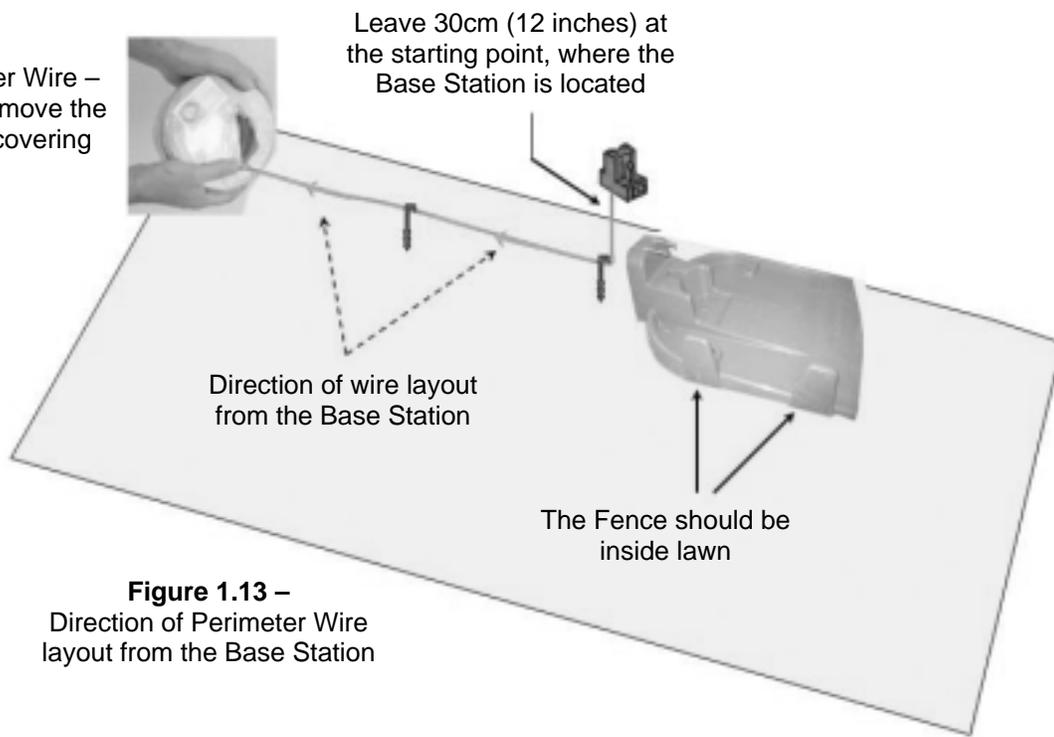

Figure 1.13 –
- Place the Base Station concomitantly to the lawn edge on the lawn where the fence faces towards the inner side of the lawn (Figure 1.13).
- Peg the beginning of the wire to the ground where the Base Station will be located; be sure to leave 30cm (12 inches) to close the loop at the end of the setup (Figure 1.13);
- Start laying the wire to the counterclockwise direction when standing inside the lawn, as show in Figure 1.13.
- Begin pulling the perimeter wire out of the plastic covering and lay it loosely as you walk along the area of the lawn to the direction shown in Figure 1.13;